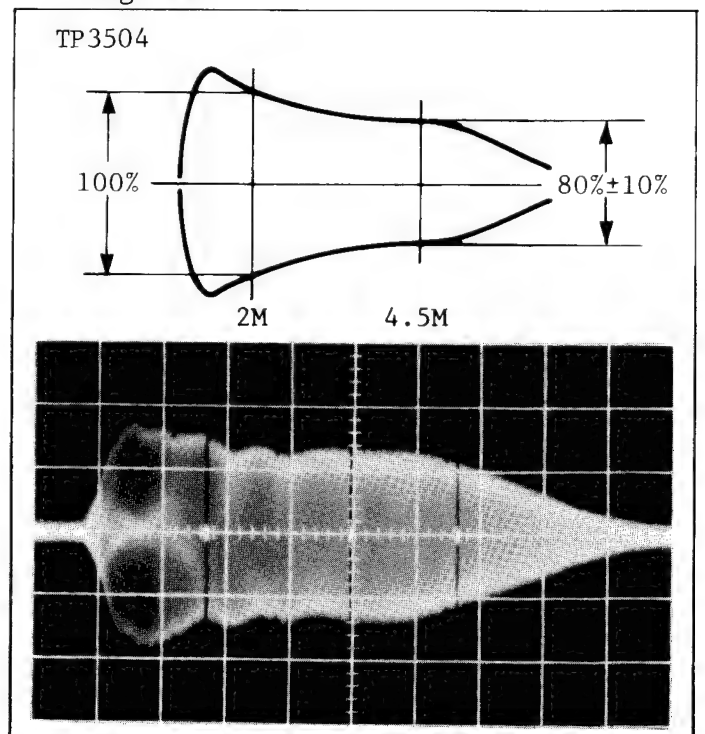

Fig. E15 TP3504 20mV/2msec.div.
8. Adjust the HEAD Q SP-L (R3584) so that the level at 4.5MHz is $80\% \pm 10\%$ of level at 2MHz as shown in Fig. E15.
11. Adjust the HEAD Q SP-R (R3585) so that the levels at 2MHz and 4.5MHz are shown in Fig. E15.
8. Adjust the HEAD Q LP/SLP-L (R3595) so that the levels between 2MHz and 4.5MHz are shown in Fig. E15.
11. Adjust the HEAD Q LP/SLP-R (R3594) so that the level between 2MHz and 4.5MHz are shown in Fig. E15.